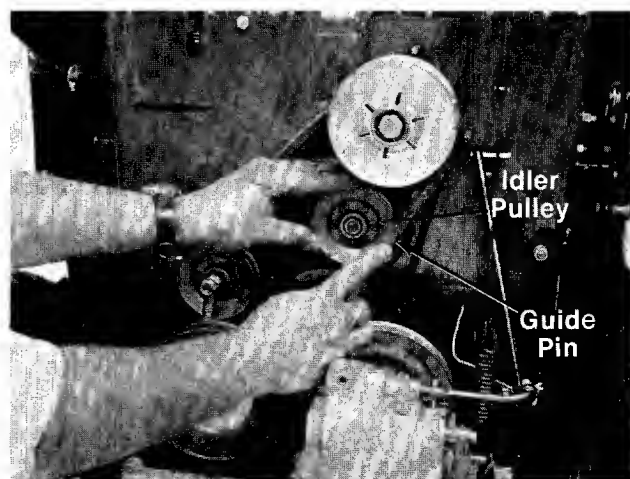

**FIGURE 41.**
8. Remove and replace the "V"-belt. See figure 41.